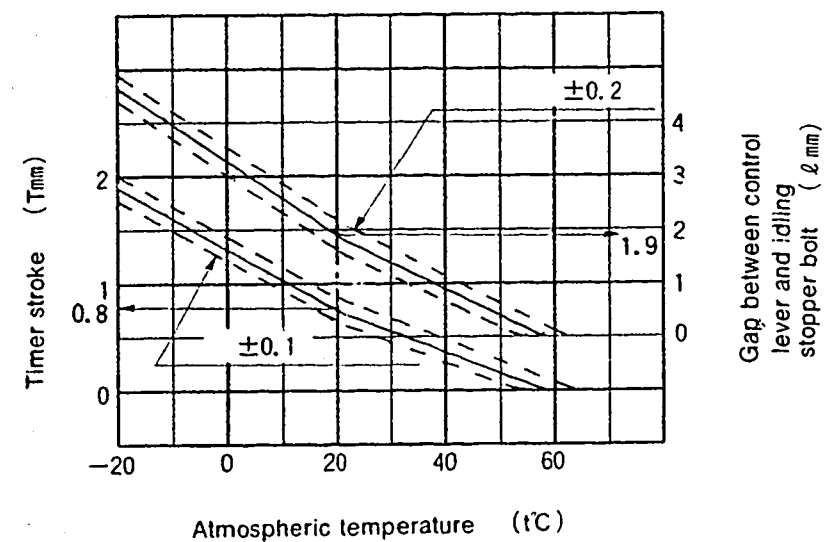

Fig. 2
1. Calculate the timer stroke from Fig. 2 according to the atmospheric temperature at the time of adjustment.
1. Calculate the block gauge dimension  $\ell \pm 0.05$  mm from Fig. 2 according to the atmospheric temperature at the time of adjustment.
Formula for calculating Fig. 2